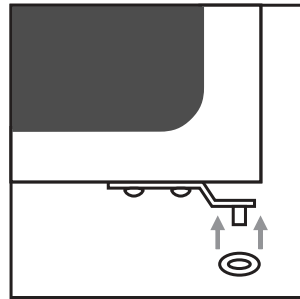

fig. 8c
- Slide the door into the lower hinge. Place the ring between the hinge and the hinge holder (see fig. 8c).